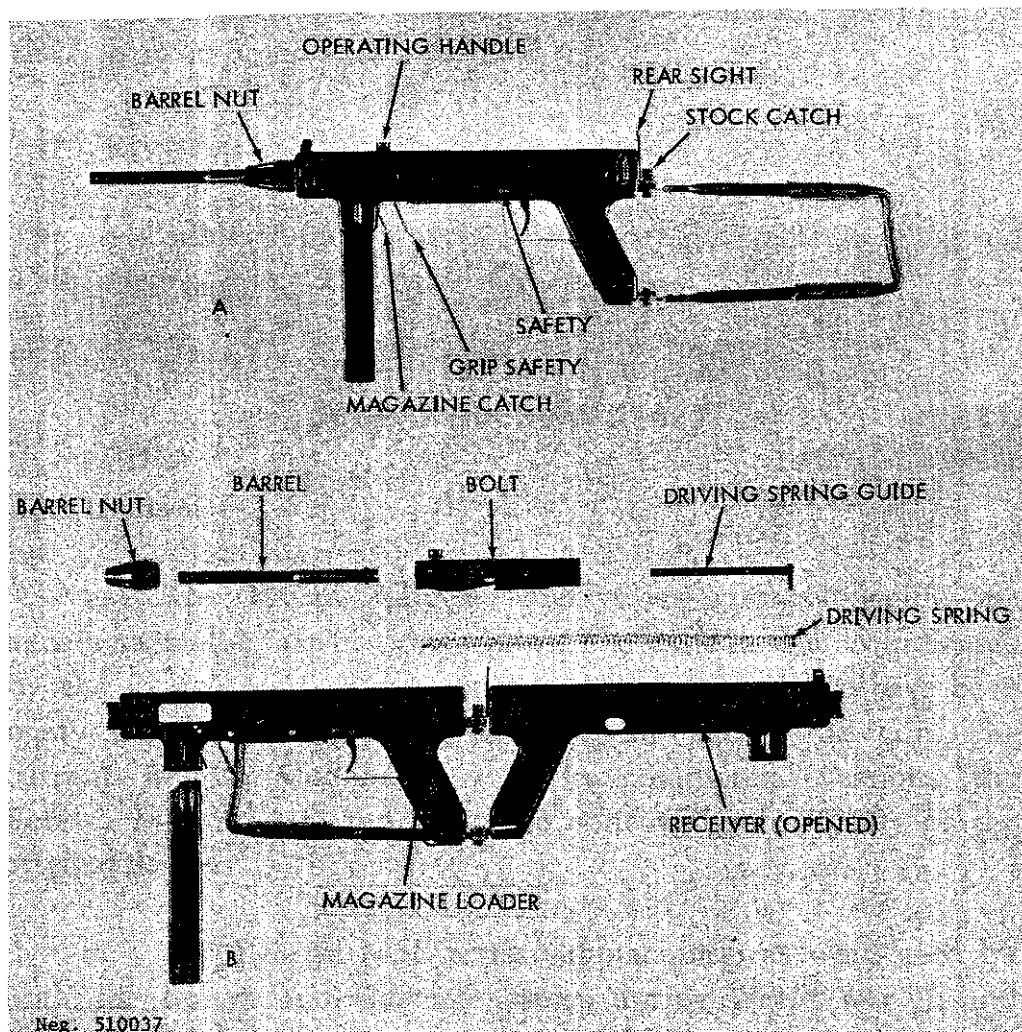

Figure 38. Danish Madsen Model 50 submachinegun.
a. The 9-mm Madsen Model 50 submachinegun (fig 38), a remarkably simple weapon even for a submachinegun, uses pressed metal parts to the maximum. The "clamshell" method of opening the receiver readily exposes all of the gun's mechanism for user maintenance. A magazine loader and spare parts are stored in the pistol grip.
b. Several variants of this submachinegun are in existence. An early model, the M1946 (fig 41), has a flat, flanged operating handle that extends across the top and down over the sides of the receiver. The more common M1950 (fig 38) uses a small circular knob for its operating handle. The M53 (fig 39) model has a curved magazine and a short cylindrical barrel nut that screws onto the barrel instead of onto the receiver as in the M46 and M50. The Mark II resembles the M53 but has a selector button located over the left grip plate; this model may also be fitted with
a. Open the receiver (para 66c) and remove the magazine loader from the pistol grip (fig 38). After loading the magazine, return the loader to its storage place and close the receiver.
c. Insert a loaded magazine into the magazine opening until the magazine catch snaps into place. Insure that the safety (fig 38) is in its forward position. Grasp the gun around the magazine housing and depress the grip safety (fig 38). Draw the operating handle (fig 38) fully to the rear and ease it forward until the bolt is caught by the sear. CAUTION: The gun is now ready to fire.
d. If the gun is not to be immediately fired, put it on safe by moving the safety to the rear. The stock can be folded or unfolded by depressing the stock catch (fig 38) and moving the stock to the desired position.
f. Remove the magazine by pressing the magazine catch (fig 38) and pulling the magazine out of the receiver.
c. Unscrew and remove the barrel nut (or jacket of a Mark III). Swing the receiver open (fig 38) and lift the barrel out. Pull the rear end of the driving spring guide (fig 38) forward out of its seat, and remove the guide and spring. Lift the bolt out of the receiver.